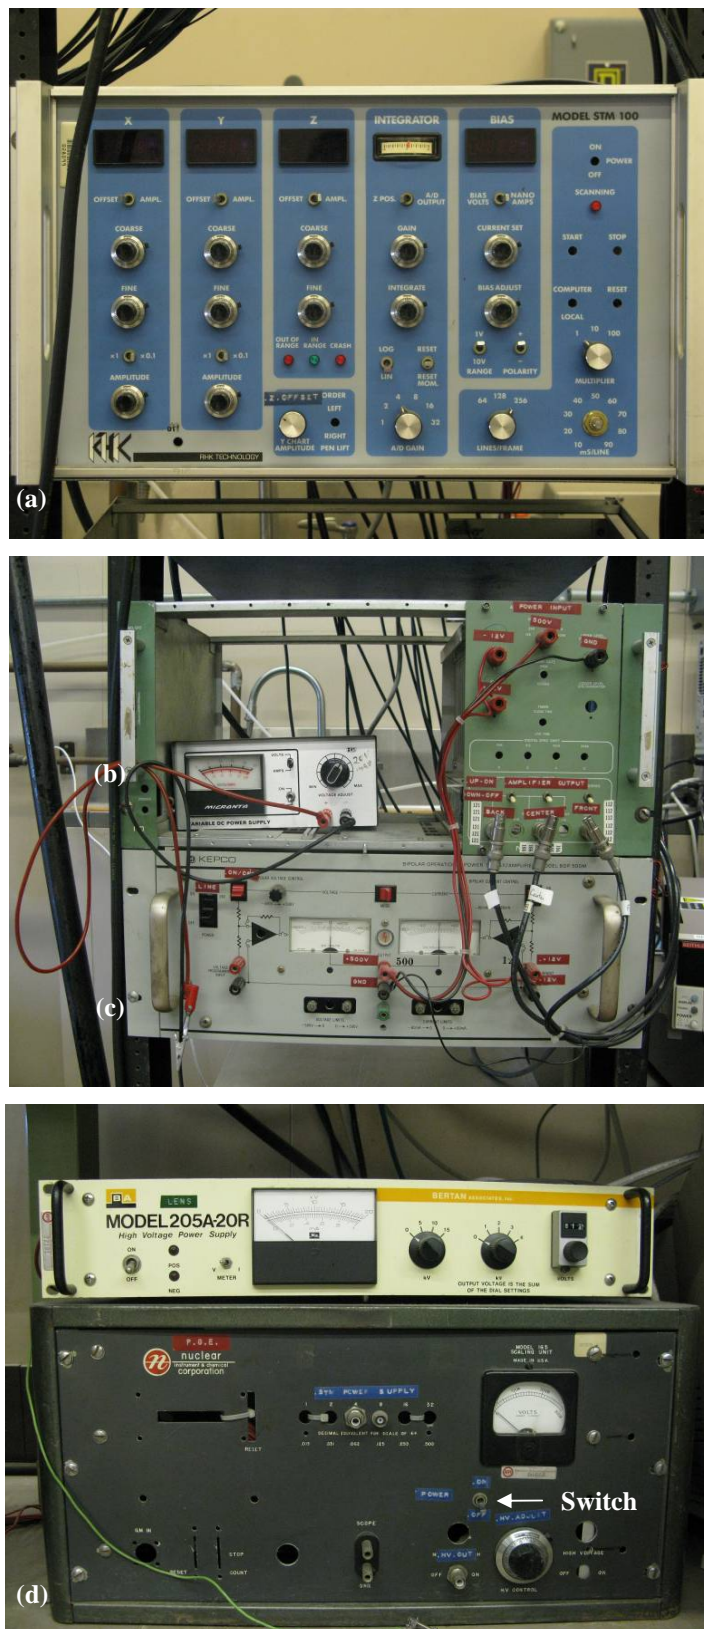

Figure 3.2 Three panels controlling the STM module.
3. Turn on the power under the computer desk (Fig. 3.2(d)).
4. Turn on the 'LINE' and 'ON/OFF' switches on the light grey panel (Fig. 3.2(c)).
5. Turn on the 'BACK', 'CENTER' and 'FRONT' switches on the green panel (Fig. 3.2(b)). (They control the three piezoelectric actuators of the inchworm.)
6. Turn the 'Z OFFSET' knob on the blue panel (Fig. 3.2(a)) counter-clockwise to the limit.
10. Turn the 'Z OFFSET' knob on the blue panel (Fig. 3.2(a)) clockwise until the 'Z AMPL.' Reading on the top reaches 0.
25. Turn off the 'BACK', 'CENTER' and 'FRONT' switches on the green panel (Fig. 3.2(b)).
26. Turn off the 'LINE' and 'ON/OFF' switches on the light grey panel (Fig. 3.2(c)).
27. Turn off the power under the computer desk (Fig. 3.2(d)).